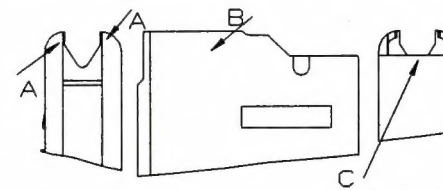

Figure 1.7
- **FEED CLIP - TOP** (Figure 1.7):